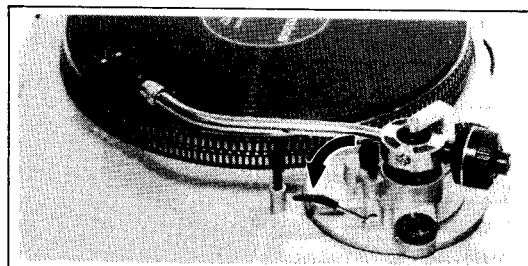

Fig. 3
7. Set the cueing lever to the down position. (See Fig. 3.)